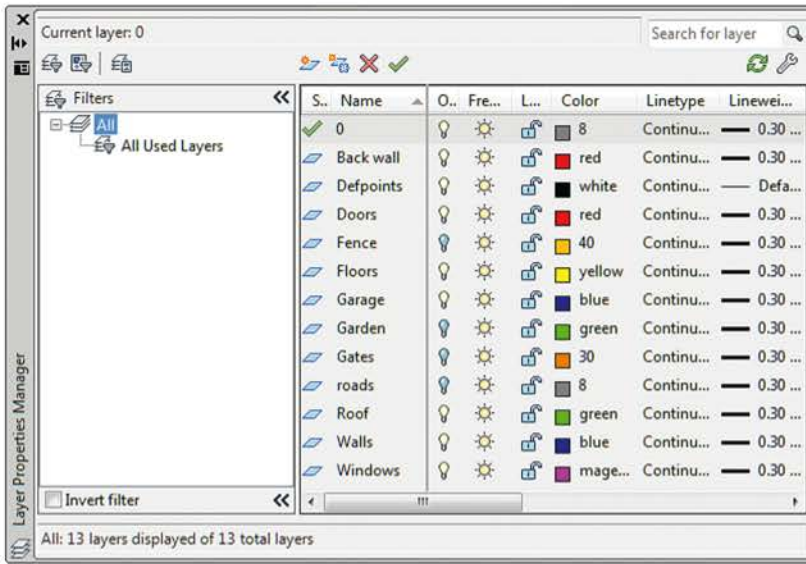

Fig. 17.9 First example – the layers on which the model is to be constructed
1. In the **Layer Properties Manager** palette – **Doors** (colour red), **Roof** (colour green), **Walls** (colour blue), **Windows** (colour 8) along with others as shown in Fig. 17.9.